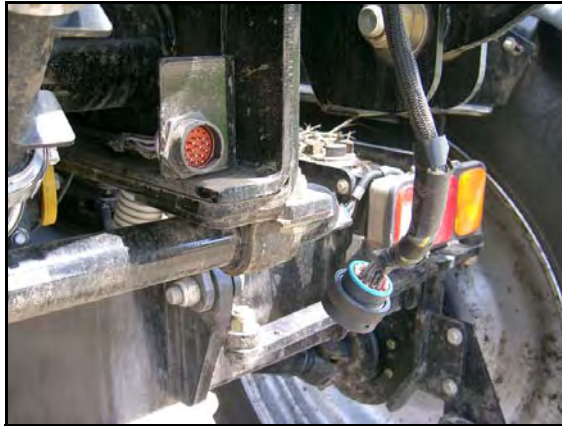

Figure 2: Bulkhead Connector
2. Locate the existing bulkhead connector on the right rear corner of chassis and disconnect. (See Figure 2)